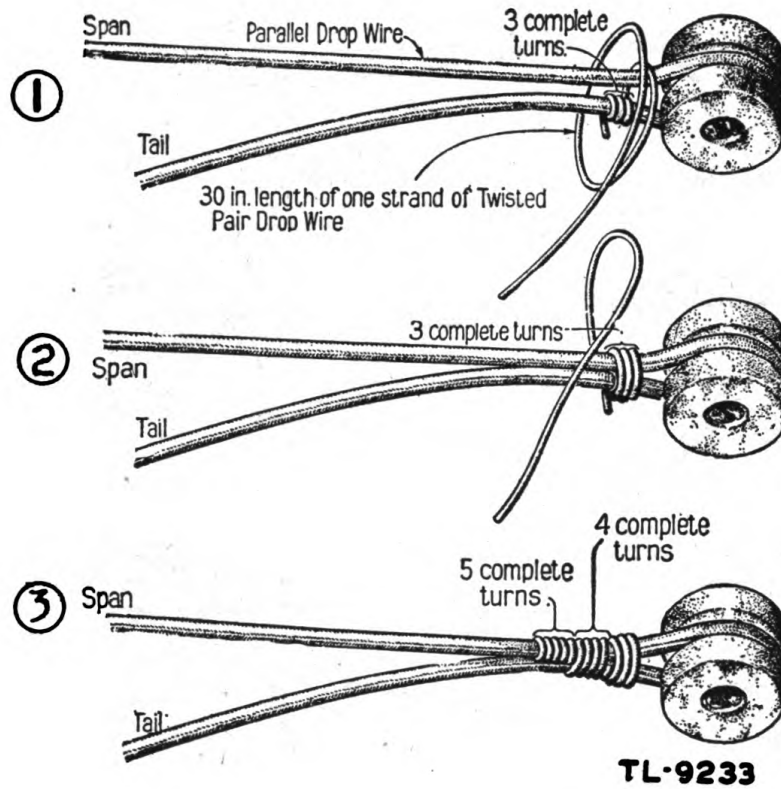

Figure 38. Dead-end tie, without loop (parallel drop wire).
d. **DEAD-END TIE (WITHOUT LOOP).** The dead-end tie, without loop, is made as shown in figure 38.